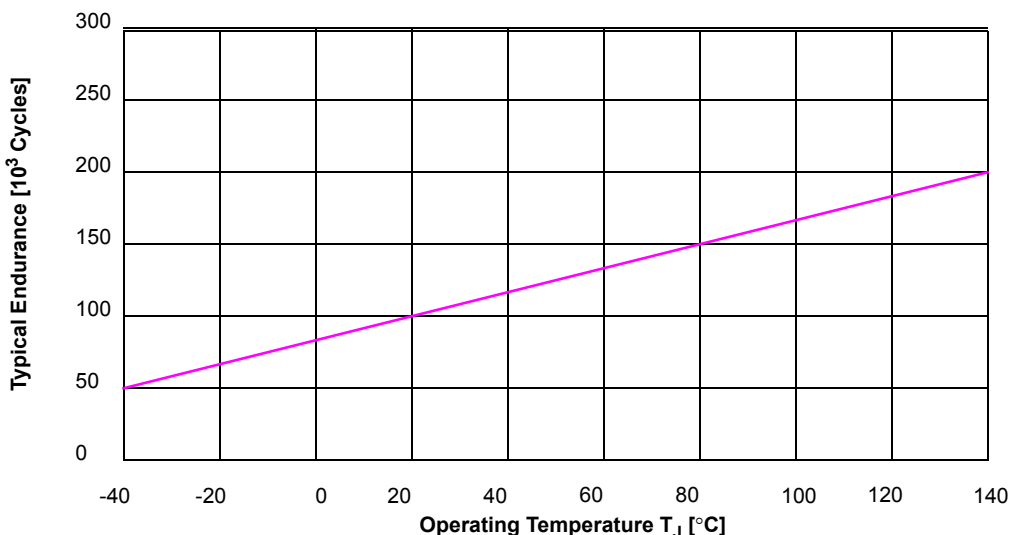

Figure 10. Typical Flash Cycling Endurance vs. Temperature
- 48. Spec table quotes typical endurance evaluated at 25 °C for this product family, typical endurance at various temperature can be estimated using the graph in Figure 10. For additional information on how Freescale defines Typical Endurance, refer to Engineering Bulletin EB619.